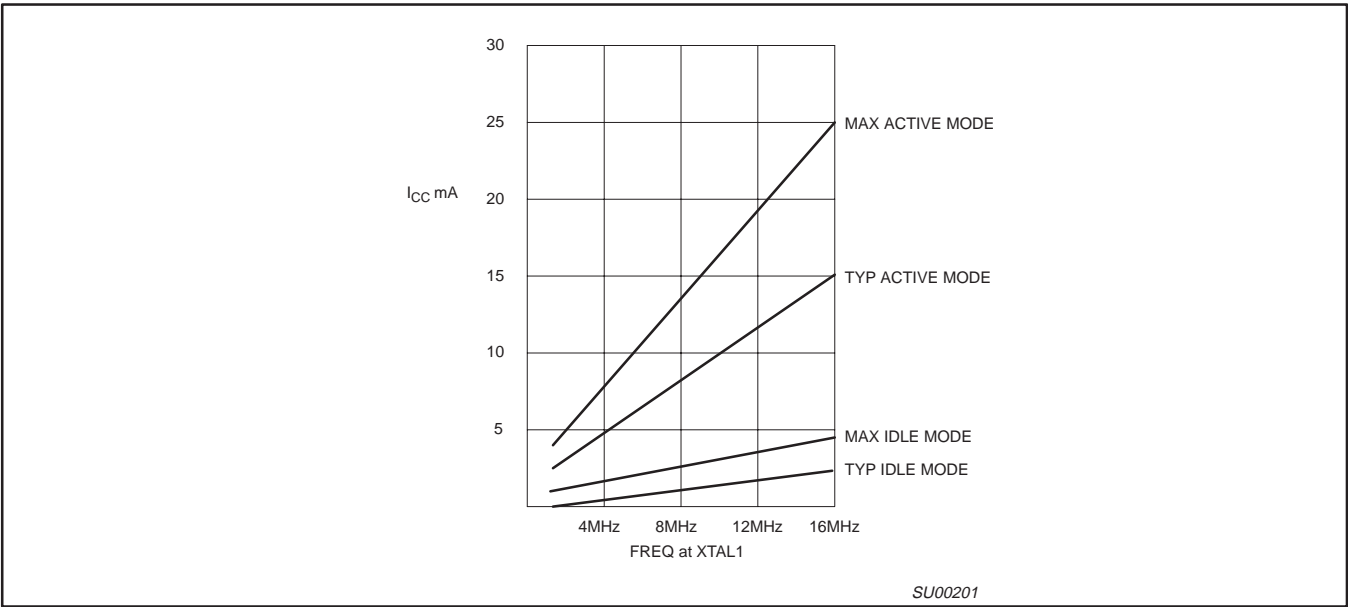

Figure 12. I_{CC} vs. FREQ (Commercial Temp. Range)
- I_{CCMAX} at other frequencies is given by: Active mode; $I_{CCMAX} = 1.43 \times \text{FREQ} + 1.90$; Idle mode; $I_{CCMAX} = 0.14 \times \text{FREQ} + 2.31$, where FREQ is the external oscillator frequency in MHz. I_{CCMAX} is given in mA. See Figure 12.